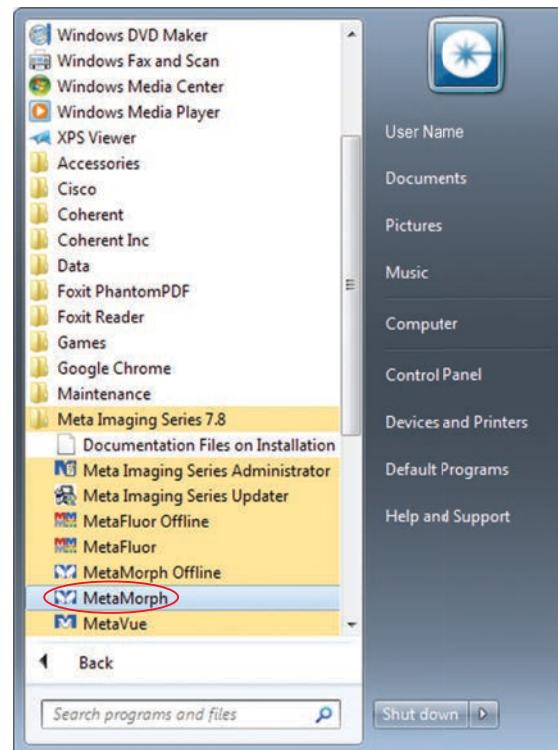

Figure H-20. Run MetaMorph in the Windows Start Panel
2. Click **Meta Imaging Series 7.8**, and then click **MetaMorph**, as shown in Figure H-20.